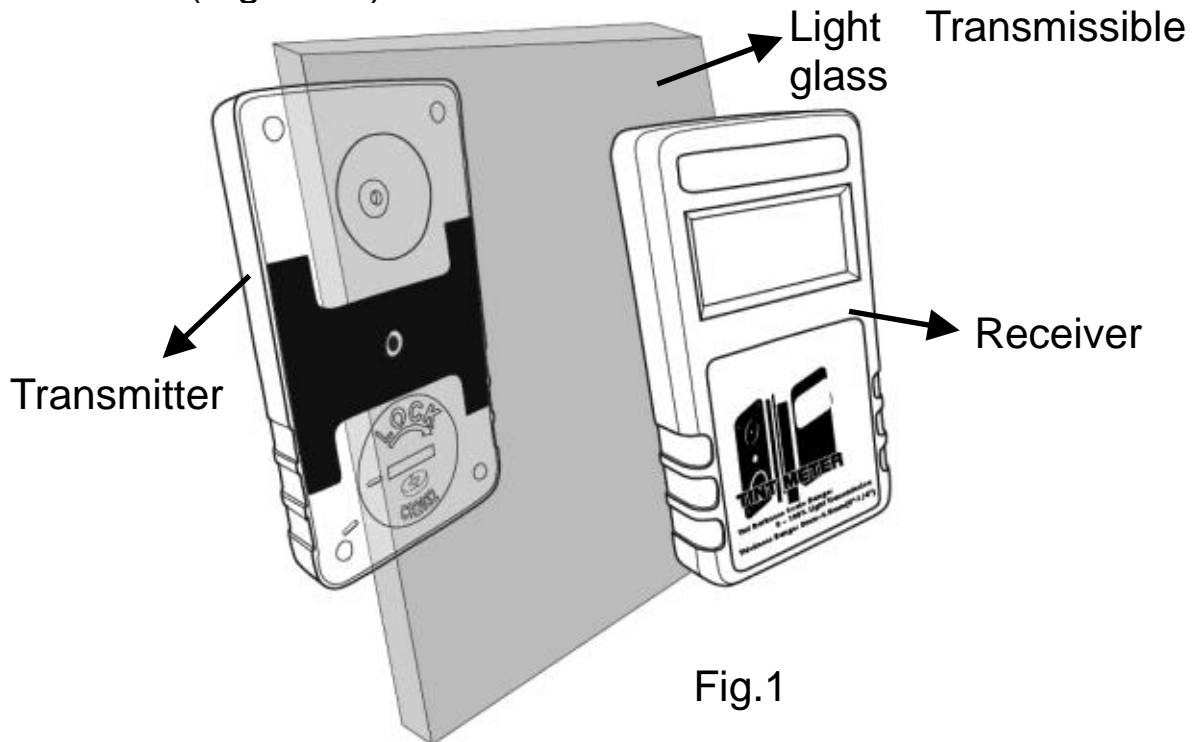

Fig.1
2. Place the window mount of the transmitter of the glass to be measured and place the receiver on the other side of the glass. The measured percentage will be displayed on the LCD. (Figure 1.)
If the "⚡+Err" symbol appears on the LCD , please replace the transmitter battery (see fig.1)